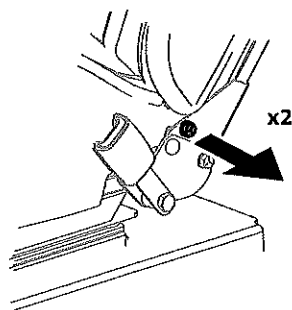

Figure 9
2. Remove the two screws (one right side, one left side) securing seat in shipping position. See Figure 9.